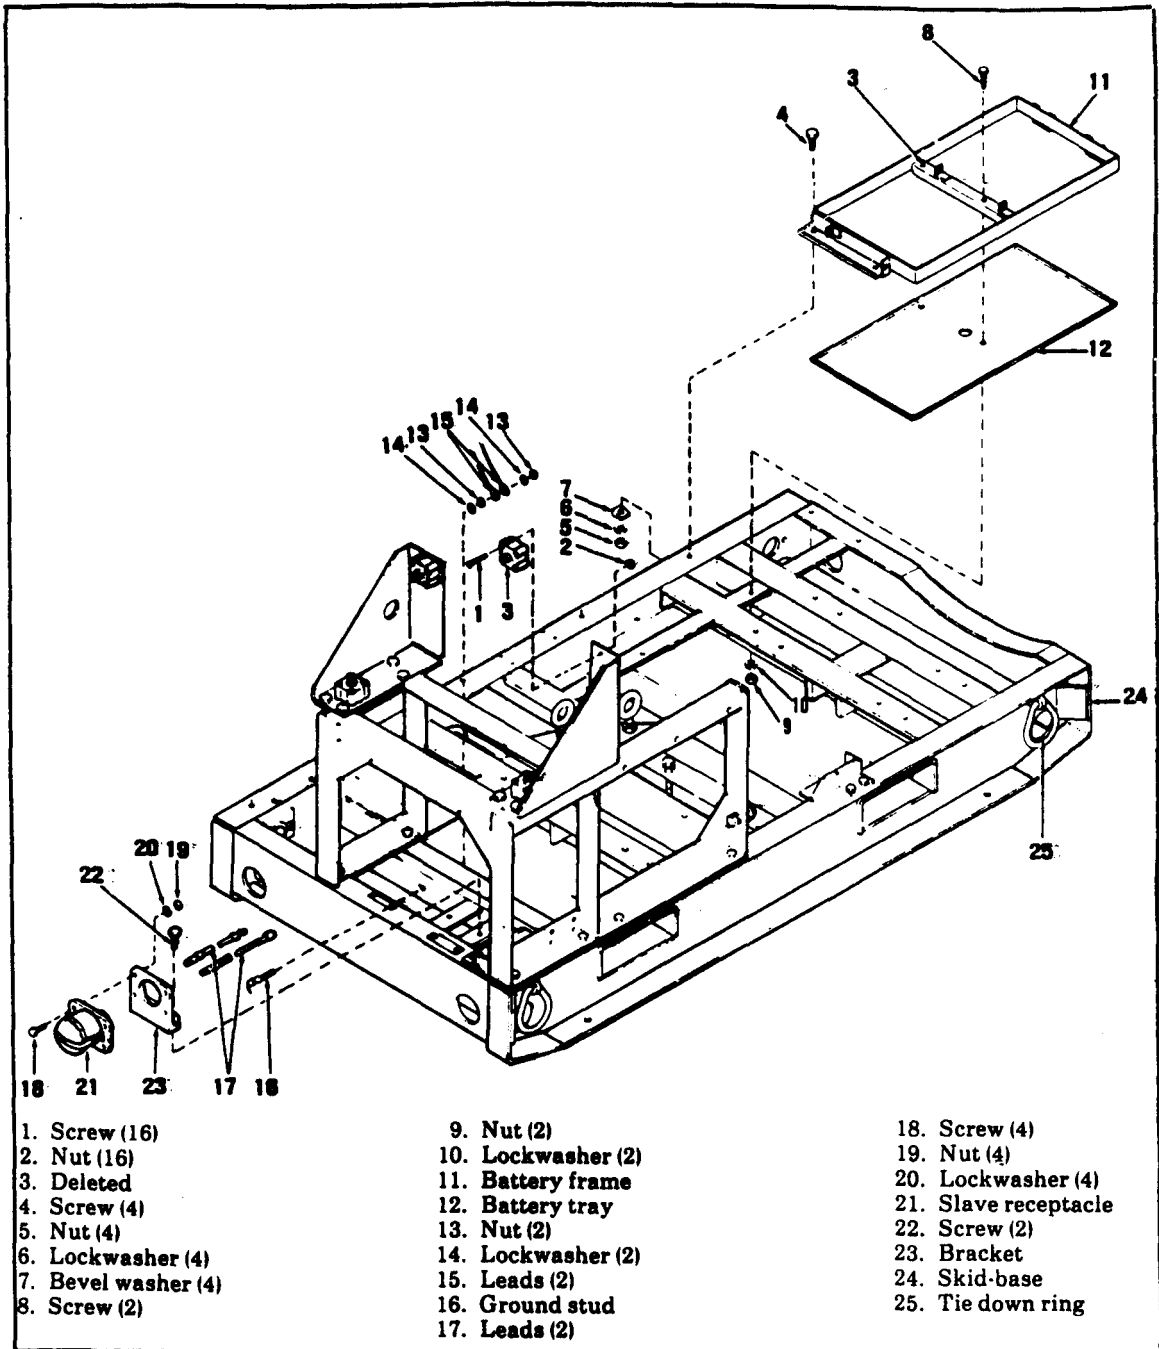

Figure 4-45. Skid Base Assembly.
a. Inspect (see figure 4-45). On ASK equipped generator sets, refer to chapter 5 and remove entire ASK assembly.
(1) Vibration Mounts. Inspect vibration mounts (3) for cracked rubber and loose or missing hardware.
(2) Battery Frame Bottom. Inspect battery frame (11) for corrosion, bends, dents or broken welds.
(3) Battery Tray. Inspect battery tray (12) for corrosion, or physical damage.
(4) Ground Stud. Inspect ground stud (16) for physical damage to threads, nuts and washers.
(5) Tie Down Ring. Inspect tie down rings (25) for physical damage. Check that they are securely mounted to skid-base.
(6) Skid-Base. Inspect skid-base (24) for physical damage. Check that skid-base is not bent or bowed.
b. Remove (see figure 4-45).
(1) Vibration Mounts.
(b) Remove four screws (1, figure 4-45) and nuts (2) attaching each mount in place and remove mounts (3).
(2) Battery Frame and Tray Removal.
(b) Remove screws (4 and 8, figure 4-45), bevel washers (7), lockwashers (6 and 10), and nuts (5 and 9). Remove frame (11) and tray (12).
(3) Ground Stud. Remove nut (13) and lockwasher (14) attaching ground leads (15) from starter to ground stud (16). Remove nut (13) and lockwasher (14) attaching ground stud to skid-base (24). Remove stud.
(4) Slave Receptacle. Tag and remove leads (17) from slave receptacle (21). Remove receptacle (21) by removing screws (18), nuts (19) and lockwashers (20). Remove mounting bracket (23) by removing screws (22).
(1) Battery Frame Bottom. Clean, weld and straighten battery frame as required.
(2) Battery Tray. Clean and straighten battery tray as necessary.
(3) Repair of Broken or Lost Terminal Clip (Retainer, Safety Clip). For fabrication procedure, see paragraph 4-37.
d. Install (see figure 4-45).